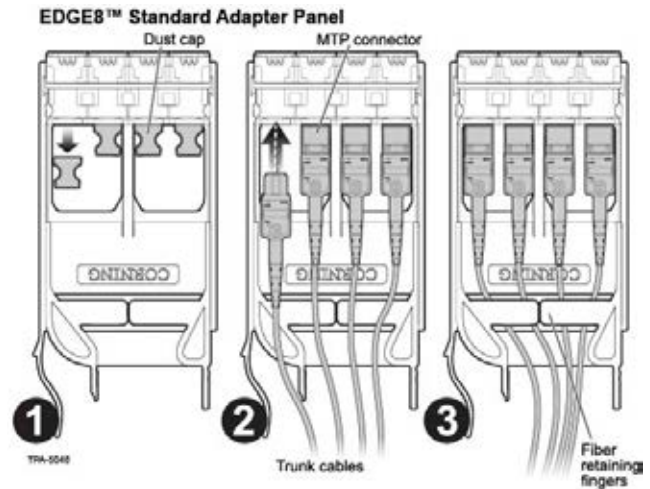

Figure 23 — Install MTP Trunk Cables into Adapter Panel.
**Step 2:** Mate the MTP connector(s) into the rear of the adapter(s) (Figure 23).